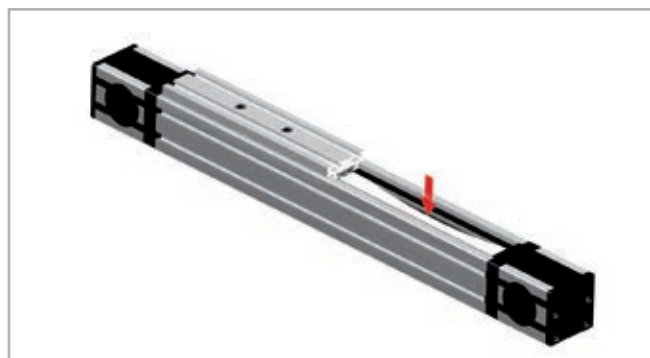

Fig. 64
2. At about half the stroke press and manually move the belt in order to see one of the two rails inside the unit (see Fig. 64).